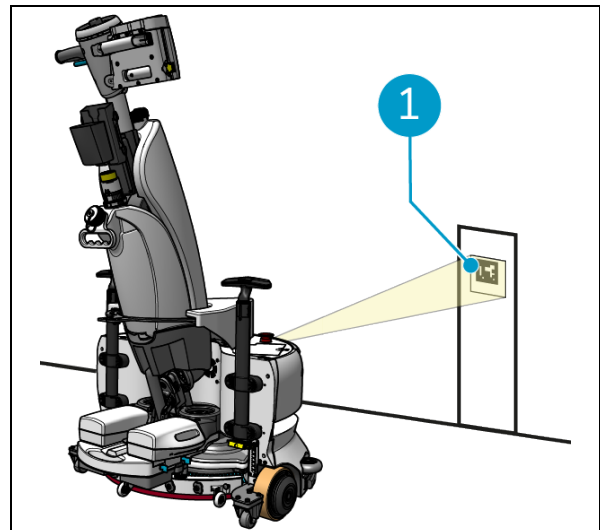

Figure 25
1. Position the i-walk about 30 cm in front of the QR code (Figure 25, pos. 1). The Auto Fill button and Teach Repeat button will flash blue when the QR code is recognized.